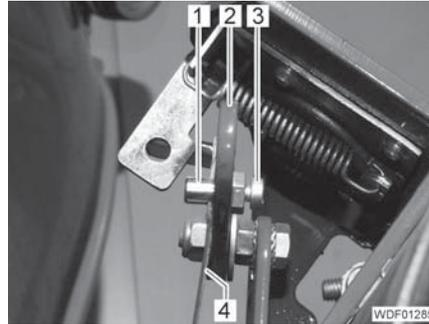

Fig. 284 Fixing a new Bowden cable
- Push the sleeve (Fig. 284,1) through the lever (Fig. 284,2).
- Push the Bowden cable (Fig. 284,4) through the sleeve.
- Screw in the screw (Fig. 284,3) and tighten hand-tight.